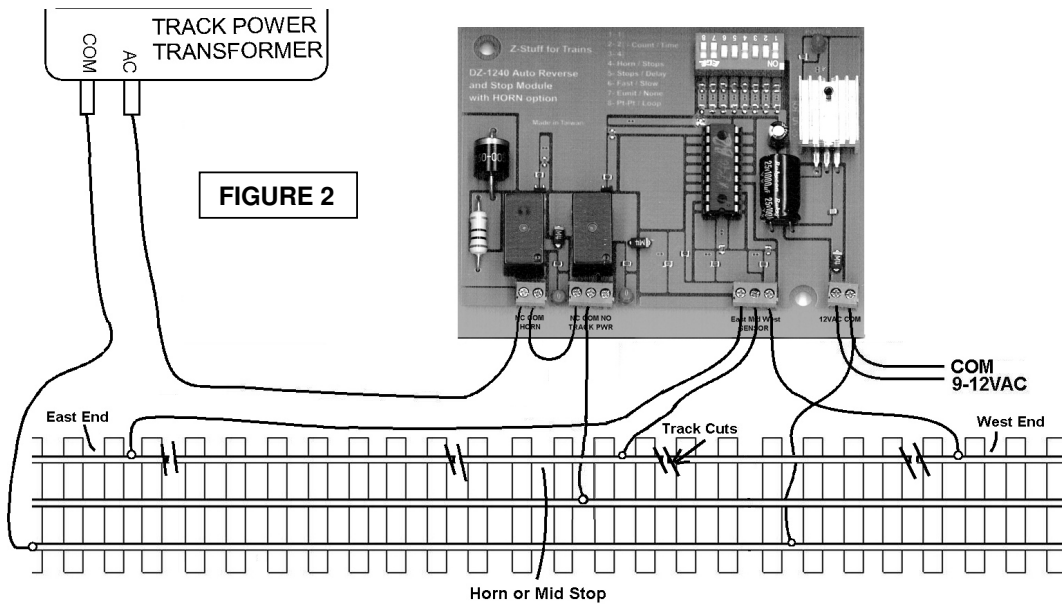
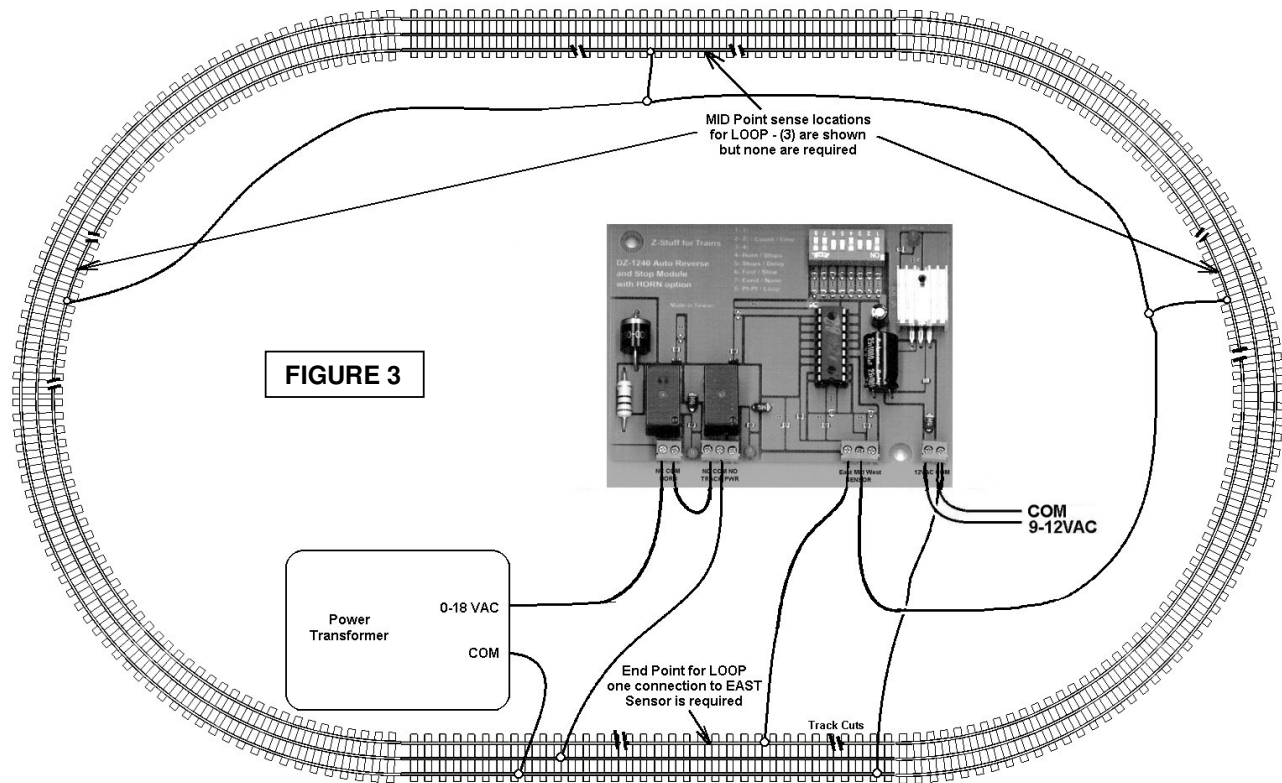

FIGURE 2
FIGURE 3
Installation consists of making wire connections to the track and creating isolated outside rails when needed. You need to wire the controller as shown in Figures 2 for point-to-point or Figure 3 for a loop of track. For either case, only the end point sensor(s) are required. The MID point sensor(s) can be used for blowing the horn or whistle or for the location of stop locations, but the option of selecting the number of stops will eliminate the need for cutting the track to create the isolated rail sections.
- 1) Create sections of isolated rail as shown in Figure 2 or 3. They should be longer than the length of your engine or trolley. The EAST/WEST end sensors (isolated rails are shown) are necessary for point to point operation and the MID sensor is optional. With Lionel track isolated rail is difficult, because each metal tie connects the outside rails together. If you are using Lionel type track, you can by special sections of Lionel track that have one outside rail isolated.
- 2) Connect wires from the isolated rail sections to the sensor inputs as shown in Figure 2.